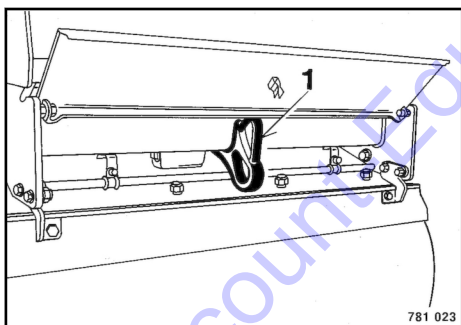

Fig. 270
1. Attach the drawbar to the front or rear towing hitch (1)
- ↪ Fig. 270.